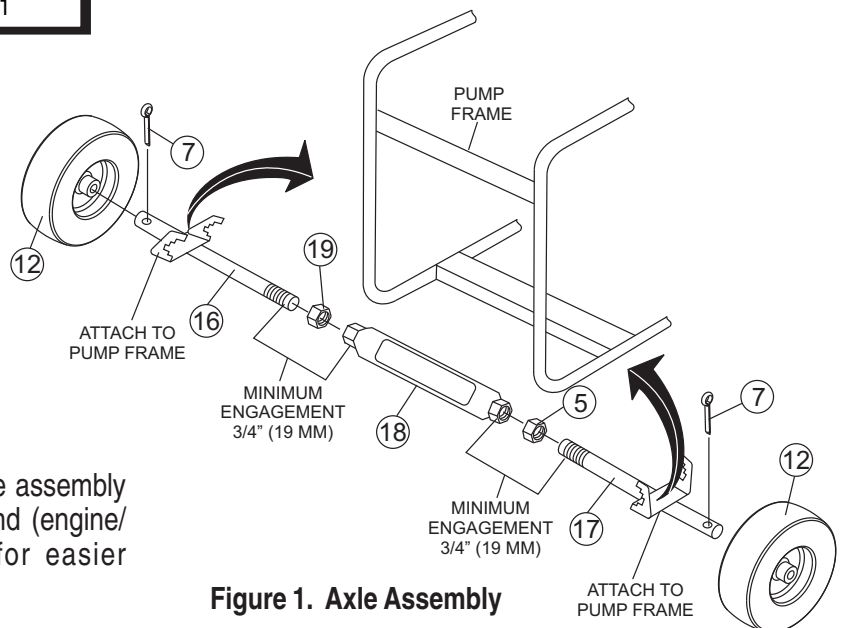

Figure 1. Axle Assembly
2. Place the axle onto the pump frame as shown in Figure 1.